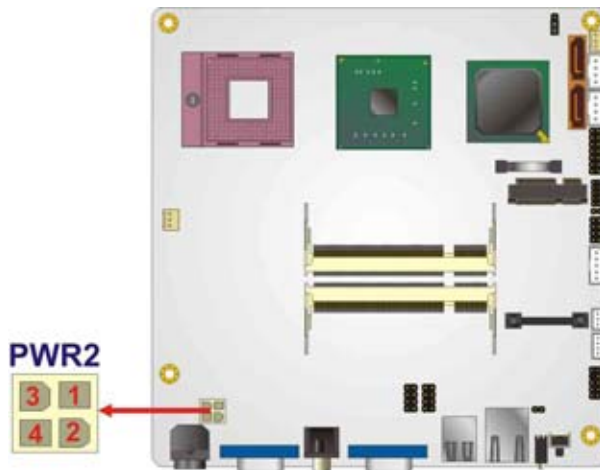

Figure 3-14: Power Input Connector Location
- CN Location:** See **Figure 3-14**